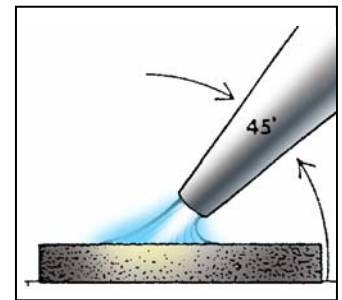

Figure 1
9. Start welding at one end, with the torch at a 45-degree angle and the inner flame cone approximately 1/8 in. from the work. Refer to Figure 1.